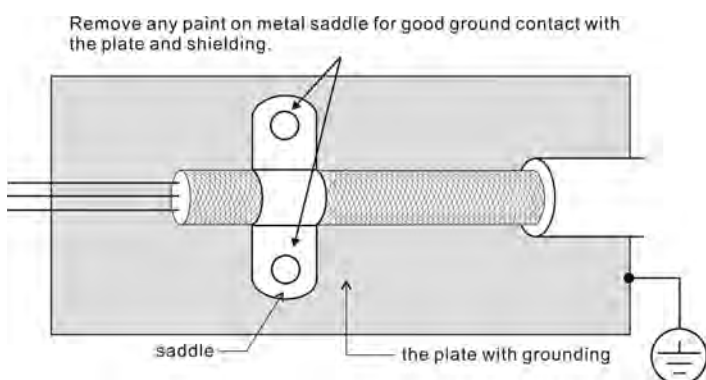

Fig.1
3. The protective paint of the U-shape saddle and metal plate should be removed in order to ensure the good contact. Please see Fig. 1.